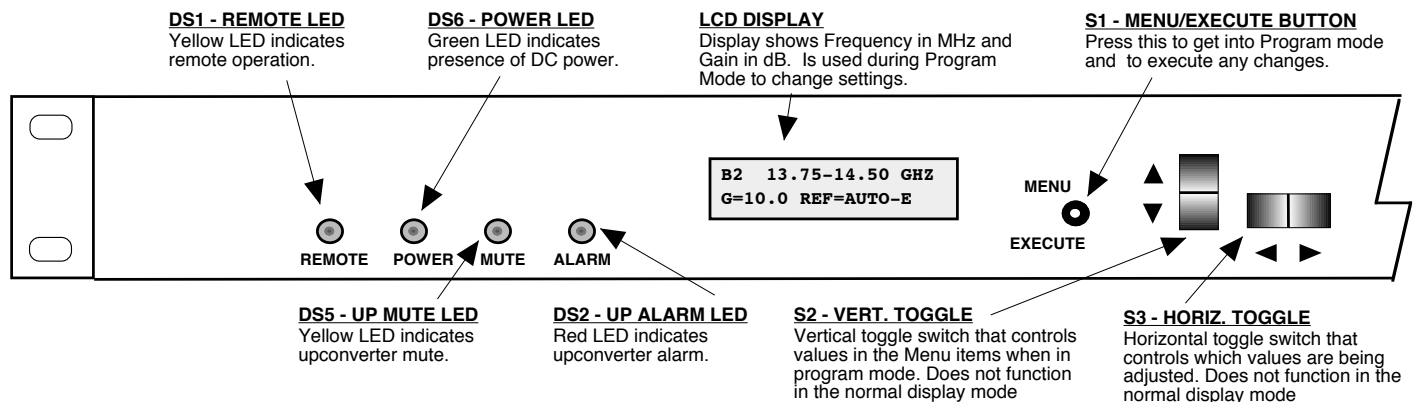

FIGURE 2.2 3115-21-67145 Front Panel Controls and Indicators
Figure 2.2 shows the front panel controls and indicators.
5. Be sure DS2 (green, DC Power) is on and DS6 (red, Alarm) is off (Figure 2.2).
Alarm indications appear on the LEDs (see Figure 2.2).